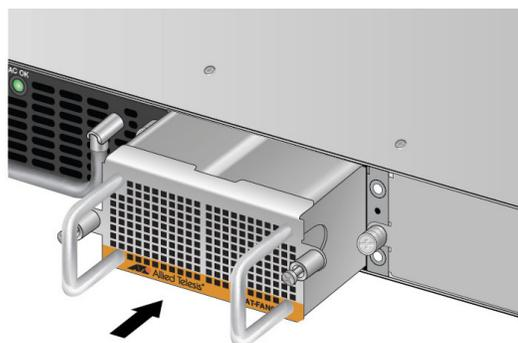

Figure 22. Insert AT-FAN06 Module Into Chassis
3. Gently push the fan module into the slot with the handles on the fan module until the module front panel is flush with the chassis front panel. See Figure 22.